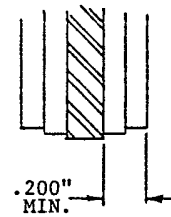

Figure 9
3. Any friction block has worn to a minimum thickness of .200”, as shown on **Figure 9**.